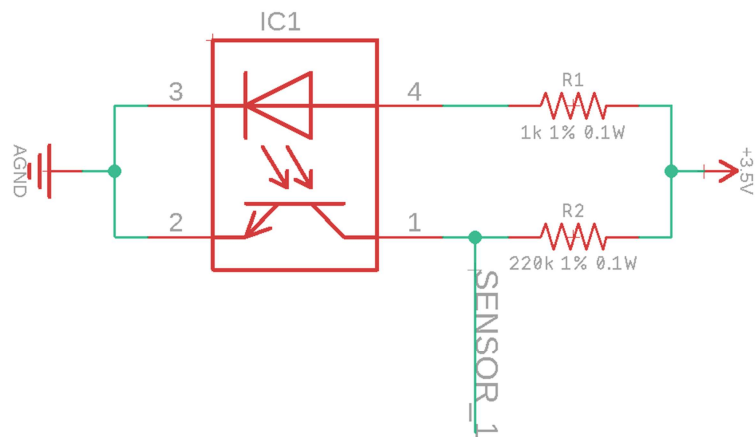

Figure 15 Sensor unit schematic
- Ratio of values of resistors $R1 / R2$ (see Figure 15). If ratio is too low or too large there is very little difference between reading of all white and all black (Figure 14). Ratio should be chosen somewhere in the middle to maximize distance between all white and all black readings.
Figure 15 shows schematic for the sensor unit. It is based on schematics from GP2S60 datasheet, <http://www.pololu.com> (lots of awesome boards which can be used in robot building and prototyping) and from the book Practical Electronics for Inventors by Paul Scherz and, Simon Monk.